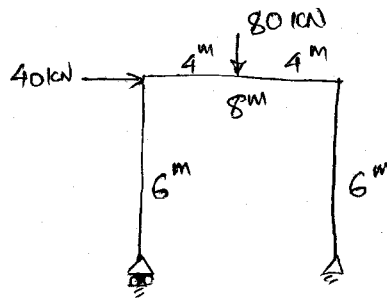

Fig.4
- (b) Draw bending moment diagram of rigid jointed frame as shown in Fig. 4 and show detail calculation. 8